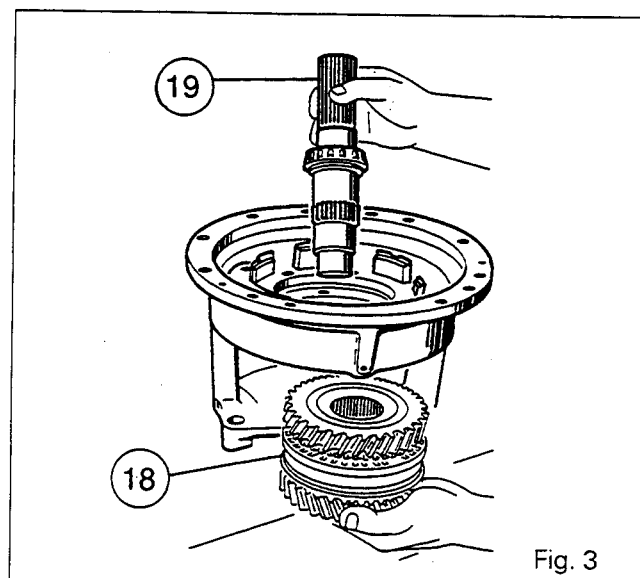

Fig. 3
14. Remove the set screw (10). Withdraw the gear pin (13). Remove the reverse double gear (15), the washers (12) and (17), the needle roller bearings (14) and (16), and the spacer (11).
15. Remove the bolts (36). Remove the locking plate (25), the shims [1] and the cup (37).
16. Extract the secondary shaft (19) (Fig. 3).
17. Remove the gear/synchromesh assembly (18) (Fig. 3) and the friction washer /8.
18. Remove the cone (9) and the cup (38).
19. On the gear/synchromesh assembly, separate: gear (5), bush /7/, needle roller bearing (6), synchromesh cone (4), ring (3), synchromesh (2), ring (21), cone (22), gear (23) and needle roller bearing (20).
20. If necessary, extract cone (24) from the shaft and remove the friction washer /35/.